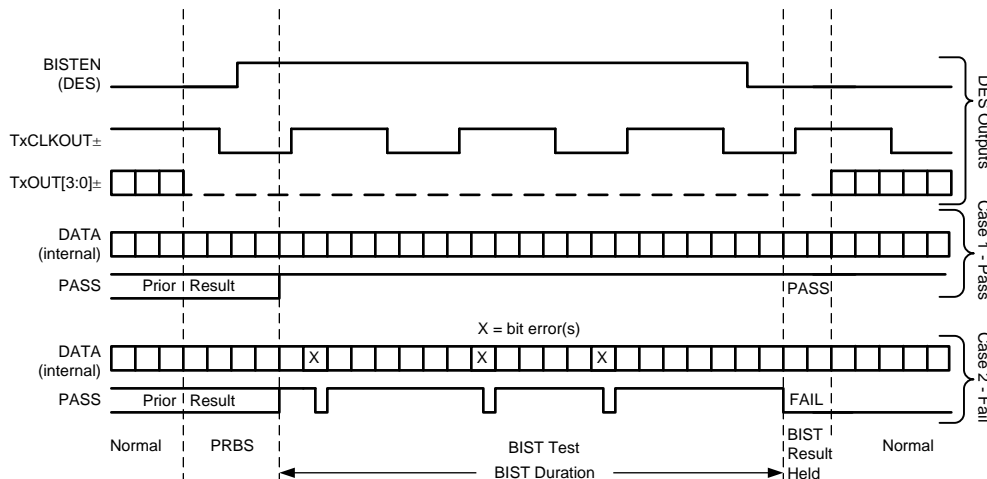

Figure 15. BIST Waveforms, in Conjunction with Deserializer Signals
Step 4: The link returns to normal operation after the deserializer BISTEN pin is low. Figure 15 shows the waveform diagram of a typical BIST test for two cases. Case 1 is error free, and Case 2 shows one with multiple errors. In most cases it is difficult to generate errors due to the robustness of the link (differential data transmission etc.), thus they may be introduced by greatly extending the cable length, faulting the interconnect medium, or reducing signal condition enhancements (Rx Equalization).